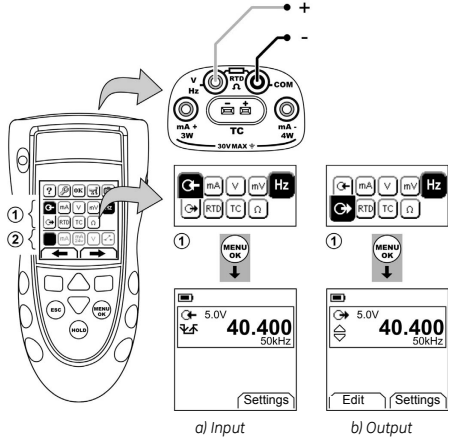

Figure 6: Example configuration - To measure/supply Hz or Pulses
1. Connect the instrument (Figure 6) and, if necessary, adjust the Set Up (Table 1).